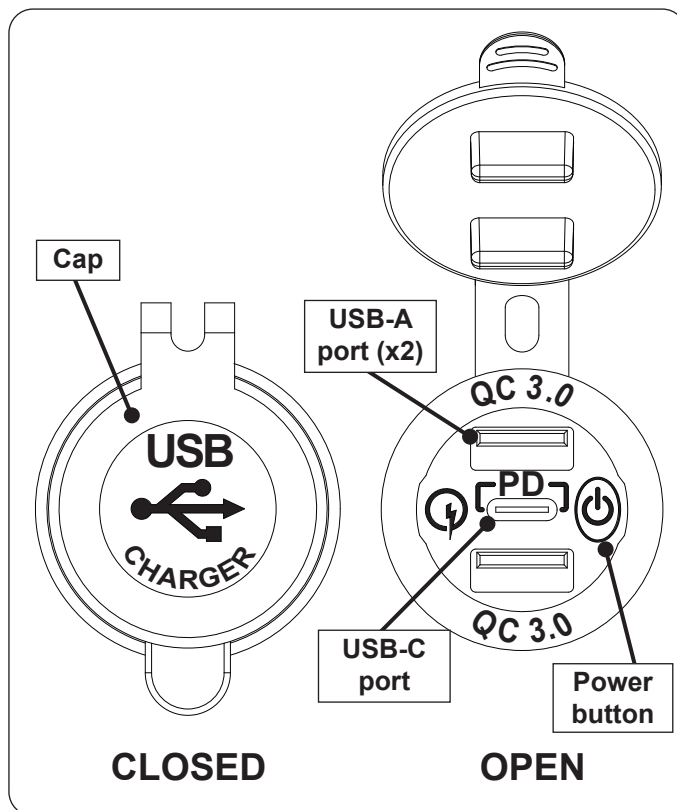

Fig. 39-1 USB outlet overview
Fyrestarter (H) models are equipped with a USB outlet for charging electronic devices. To use, see Fig. 39-1 and follow the steps below.
1. Locate the control panel on the side of the unit (refer to the IDENTIFICATION PARTS LIST if needed), and identify the USB outlet (see Fig. 39-1).